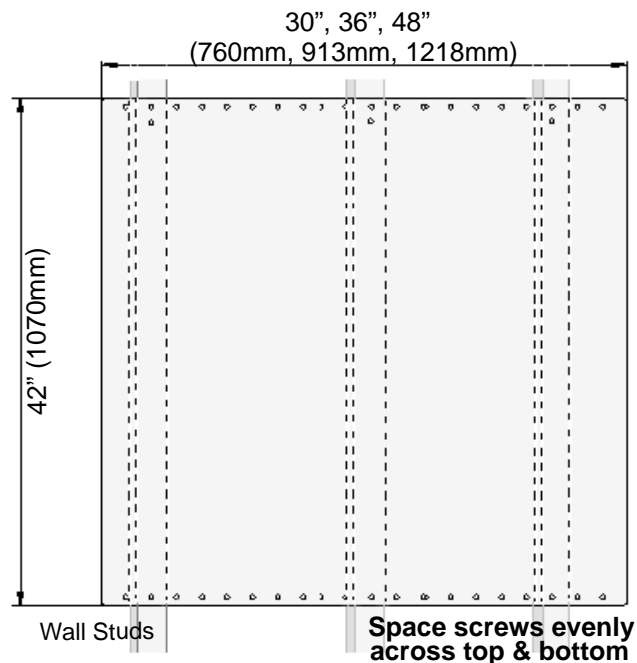

Figure 1: Backsplash Installation
3. Per each wall stud, use (2) of the provided screws to secure both the top and bottom of the backsplash (see Figure 1).